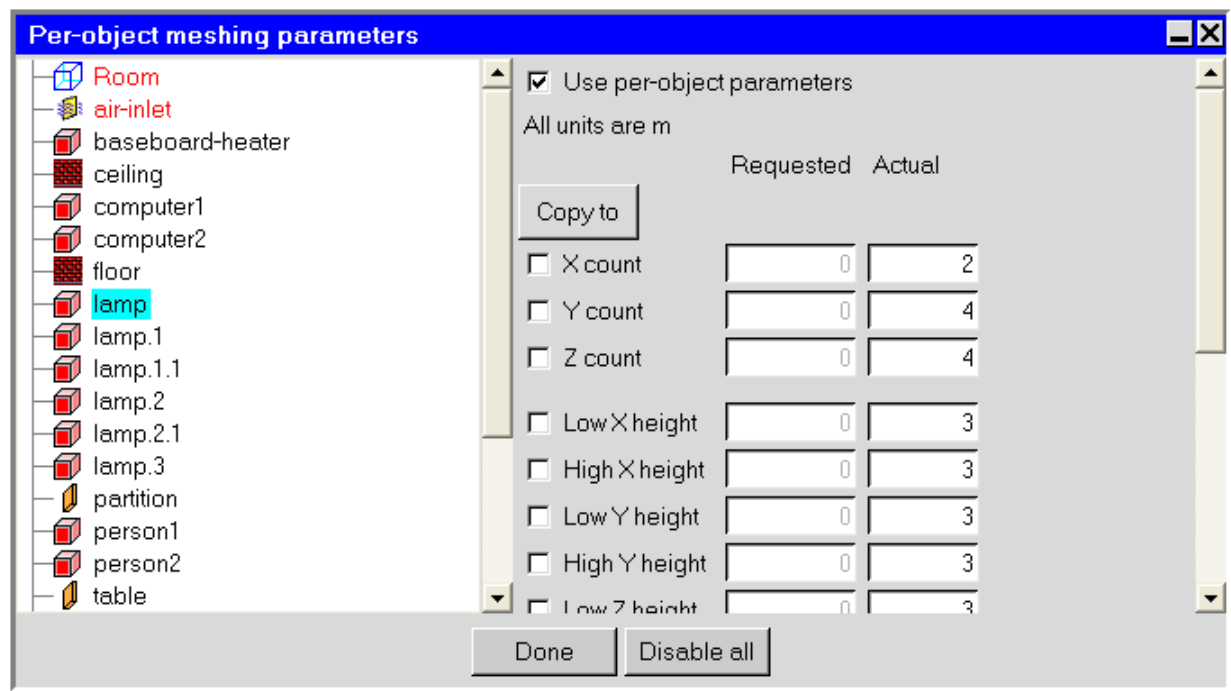

Figure 26.6.1: The Per-object meshing parameters Panel
4. Enable the **Object params** option (note that this option is called **Per-object params** if you selected **Tetra** for the **Mesh type**) and click the **Edit** button beside it to open the **Per-object meshing parameters panel** (Figure 26.6.1), which allows you to define meshing parameters specific to each object in the model.